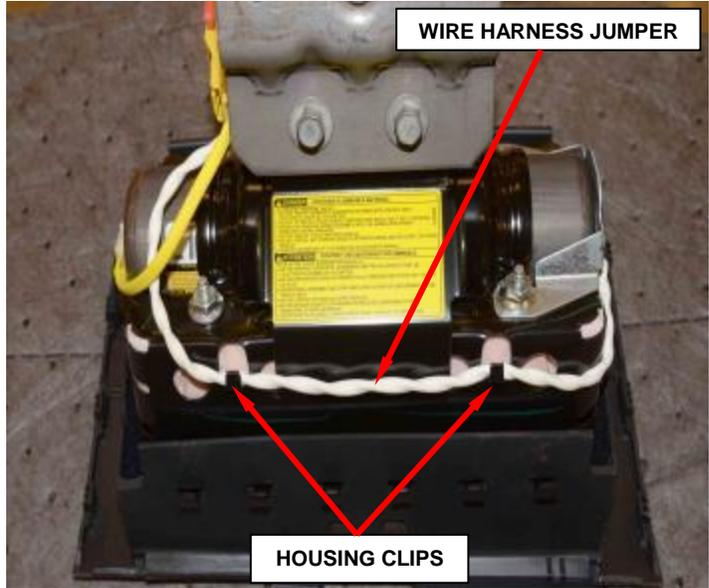

Figure 84 – Passenger Airbag Assembly
- b. Disengage the wire harness jumper from the housing clips in two places (Figure 84).